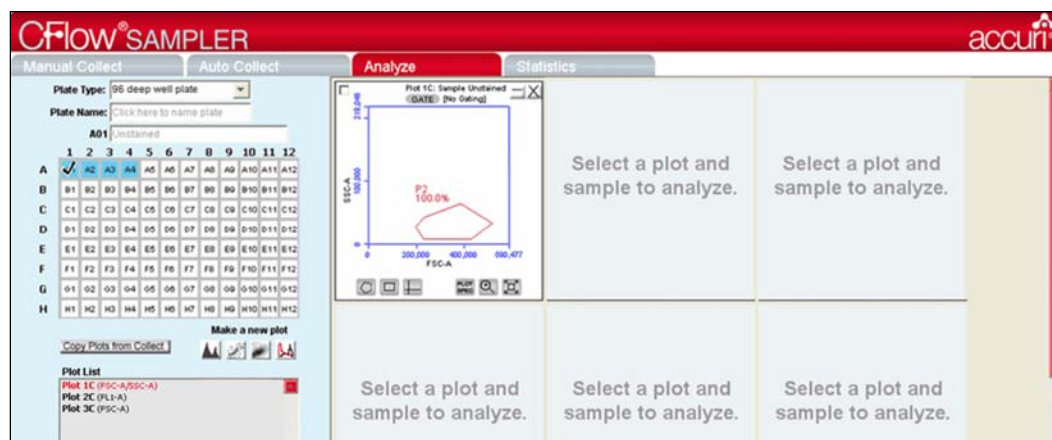

Figure 6-7. Analyze Tab with Opened Plot
- Click a plot in the Plot List (Figure 6-7) to open the plot. CFlow displays the plot without any sample data.